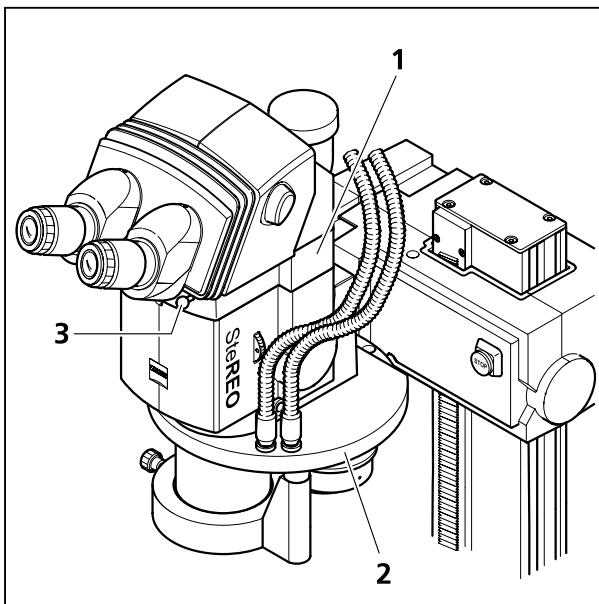

Fig. 46 Objective nosepiece S/doc, 3x, 6x cod.; Y intermediate tube S
The objectives are changed by rotating the objective nosepiece (Fig. 46/2) to the lock-in position of the desired objective. It is recommended to hold the nosepiece on the right by the slit-ring illuminator $d = 66$ mm without light guide.
If an Y intermediate tube (Fig. 46/1) has been attached, a binocular image can be produced in the macroscope position of the objective by pushing in the lever (Fig. 46/3).
- Push in the slide rod (Fig. 46/3) on the Y intermediate tube (Fig. 46/1) in order to obtain a binocular image in the macroscope position.
- Pull out the slide rod (Fig. 46/3) for stereoscopic observation.